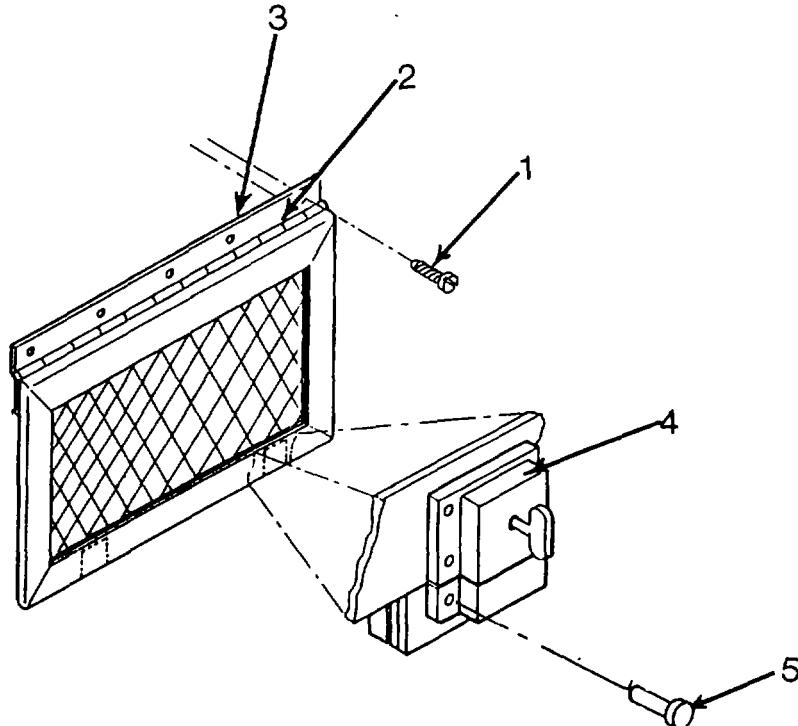

Figure 4-13. Front Wall Vent Assembly
- d. Repair by replacing front wall vent assembly. (Figure 4-13.)
(1) Remove self-tapping screws (1) along top of vent assembly hinge (2) and remove front wall vent assembly.
(2) Align replacement vent assembly hinge (2) along hinge line and secure in place with five self-tapping screws (1).
- e. Repair by replacing front wall vent assembly door latch. (Figure 4-13.)
(1) Using an electric drill, drill out rivets (5) in latch and remove latch (4).
(2) Install replacement latch (4) using blind riveter and pop rivets.